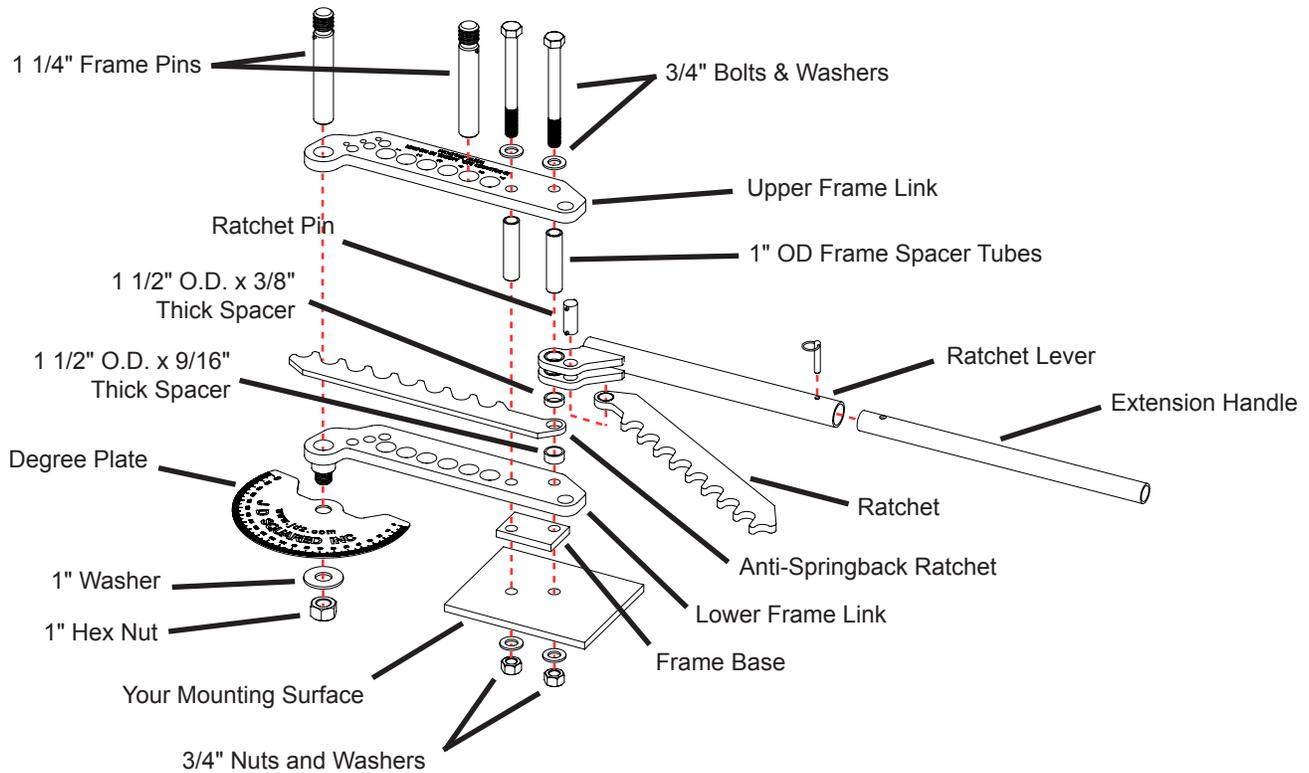

Figure 1 - Exploded view of the Frame Assembly with Degree Plate
- A) Assemble the ratchet and ratchet lever as shown in figures 1 & 2 using the 7/8" ratchet pin and two 3/16" spring pins. For hydraulic adapter installation see page 3.